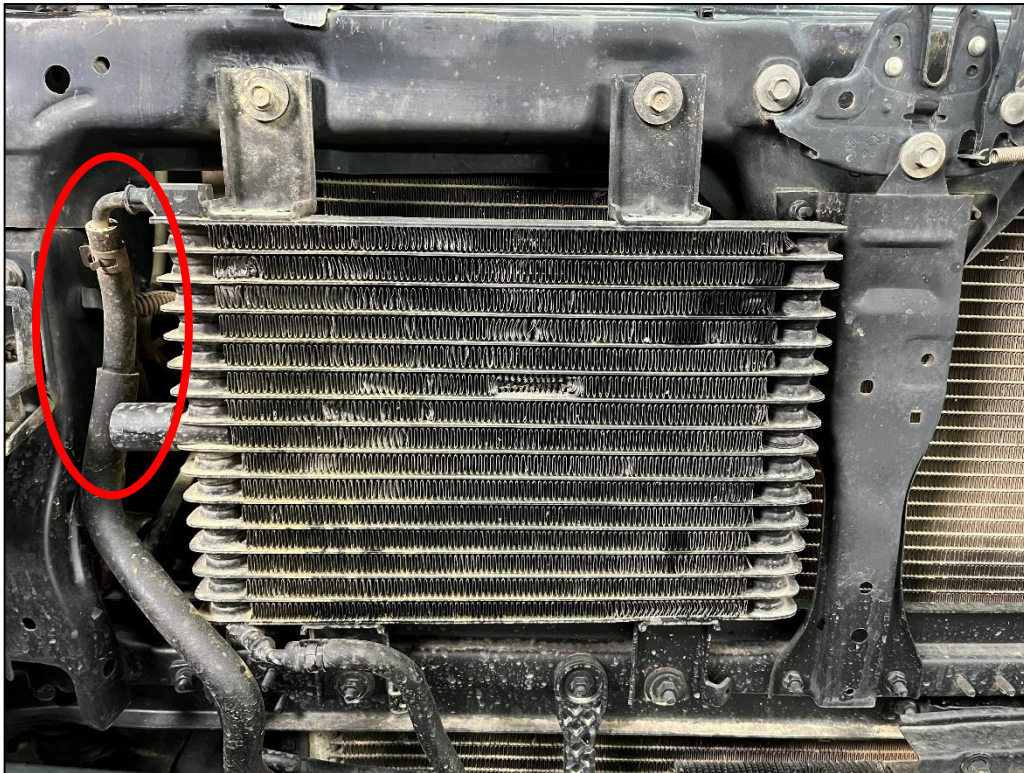

Figure 8
11. Disconnect the Upper Fluid Hose from the OE Transmission Cooler. Retain the OE Hose Clamp as it will be reused. *Figure 8.*